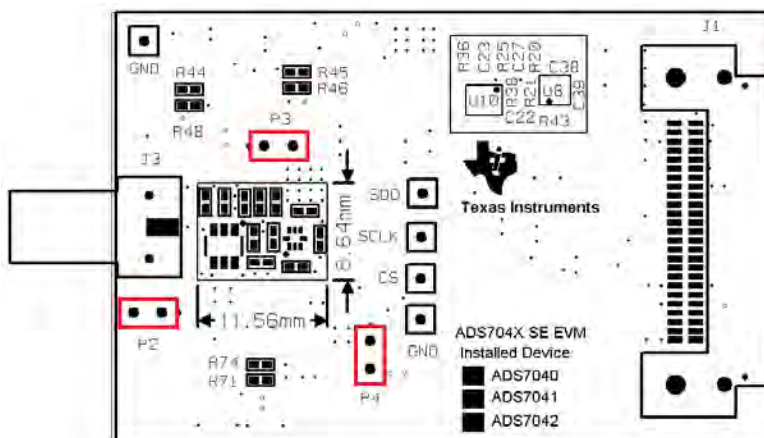

Figure 2. ADS7042EVM Default Jumper Settings
A silkscreen plot detailing the default jumper settings is shown in Figure 2.
- Step 1. Verify the ADS7042EVM jumpers are configured as shown in Figure 2.